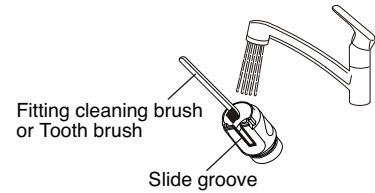

Fig.5-5 Cleaning of hole and sliding part
- Scrub the intubation or hole, slide groove and filter by a cleaning brush or by a tooth brush with running clean warm water at 40 ± 5 degrees. (Fig.5-5)